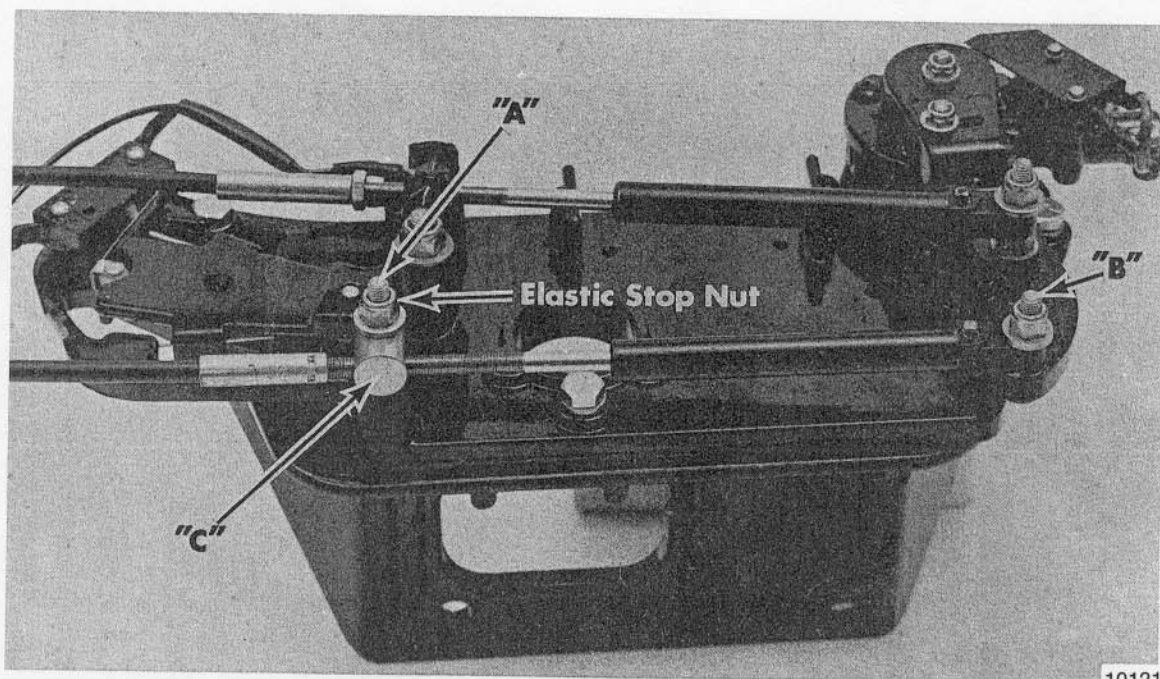

Figure 1. Shift Bracket Assembly (Removed from Engine for Clarity)
On some MCM 888 and 233 transom plate assemblies, shift cable anchor studs "A" and "B", shown in Figure 1, were installed in the wrong location on the shift bracket assembly, with the result that stud "A" is too short. It will not extend thru the elastic stop nut (shown) when shift cable brass barrel "C" is installed. At least four (4) threads of stud must be exposed through nut. Studs "A" and "B" MUST BE reversed, or stud "A" only must be replaced, to ensure correct stud extension thru the elastic stop nut.